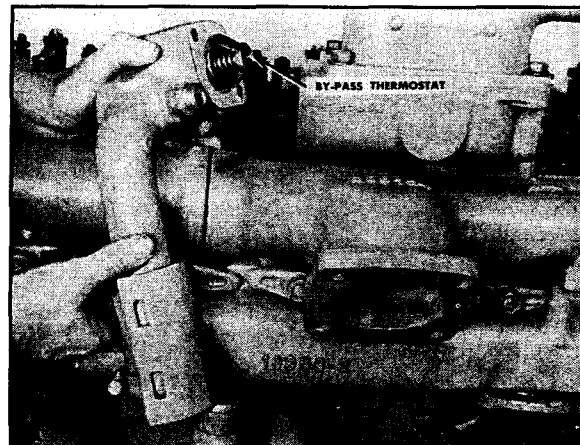

Fig. 12-65. Assembling water by-pass connection and thermostat
5. Install the by-pass thermostat with the spring toward the thermostat housing. Place gasket, and assemble the water by-pass connection to the housing with two capscrews and lockwashers. Fig. 12-65.